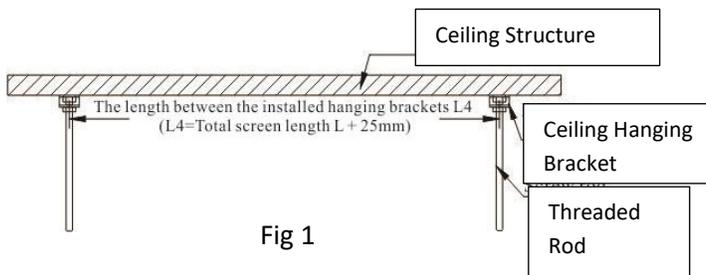
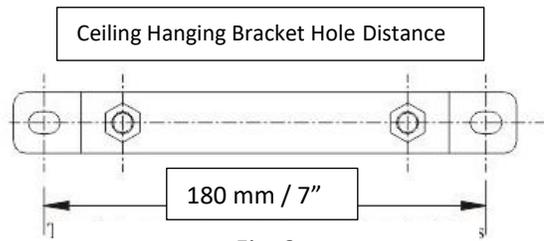

Fig 1
Fig. 2
3. Mark the ceiling for the **ceiling hanging brackets (D)** according to the measurements obtained by measuring the **Screen Length + 25 mm (0.98")**, Fig. 1. Then mark the distance between each **ceiling hanging bracket hole**, Fig. 2.